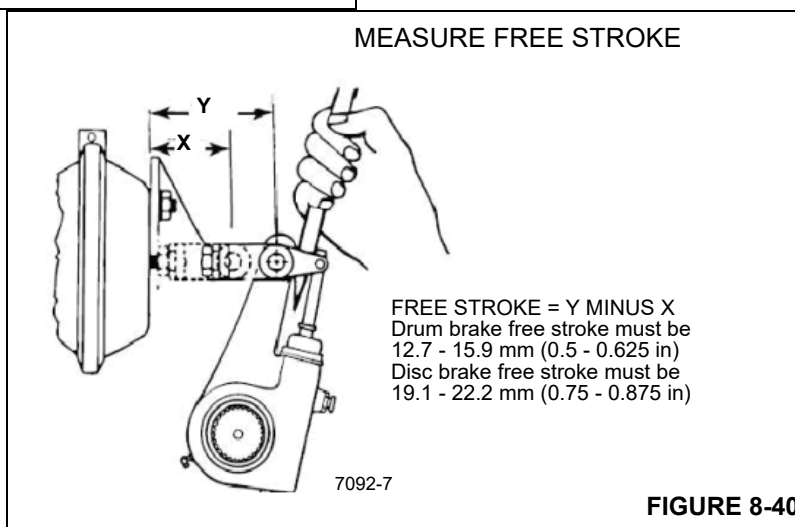

FIGURE 8-40
11. Measure the distance from the center of the large clevis to the air chamber mounting face with the brake fully released. This is dimension "X" in Figure 8-40.
12. Using a pry bar, move the slack adjuster so that the linings contact the drum. Measure the distance between the same points as in step 11. This dimension is "Y" in (Figure 8-40).
See Figure 8-40 and Figure 8-41, Free Stroke Measurement. Pull pawl must be disengaged before rotating adjusting nut. Pawl teeth will be damaged if not disengaged. Pry on the pull pawl at least 0.8 mm (0.0313 in) to disengage the teeth. When the pry bar is removed, the pull pawl will re-engage immediately.
13. Subtract dimension "X" from dimension "Y" (Figure 8-40). The difference should be 12.7 to 15.9 mm